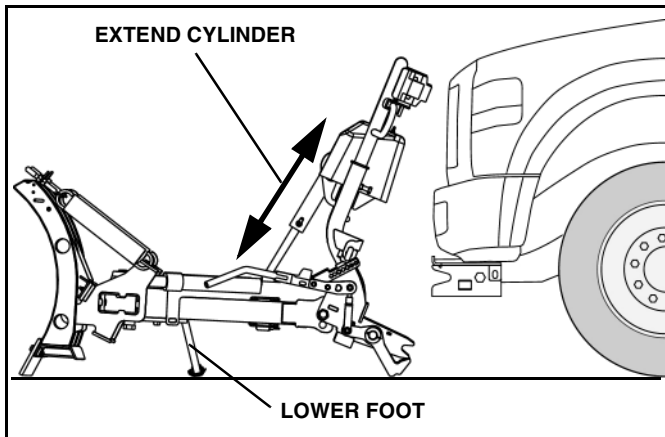

Figure 1-26
2. Using Down Pressure™, extend the cylinder (lower the plow) until the lift cylinder is fully extended. Lower the foot. (See Figure 1-26).